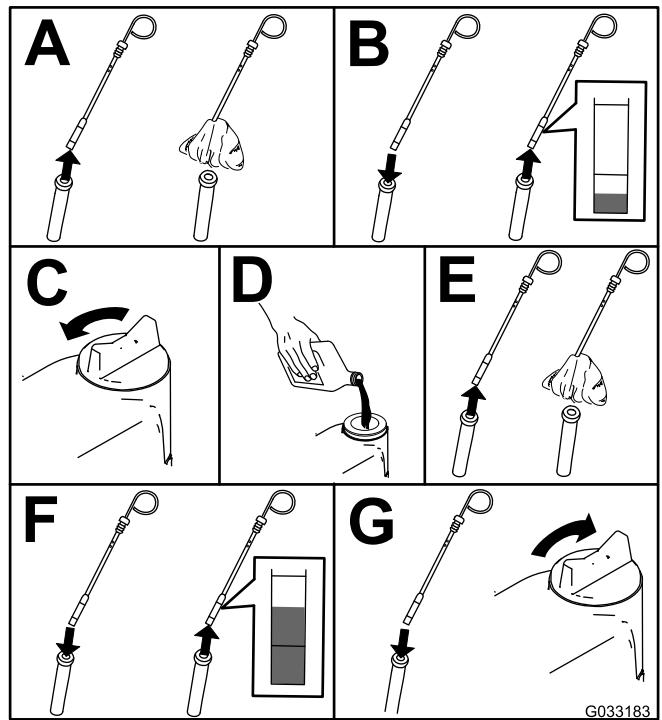

Figure 70
2. Check the engine-oil level (Figure 70).